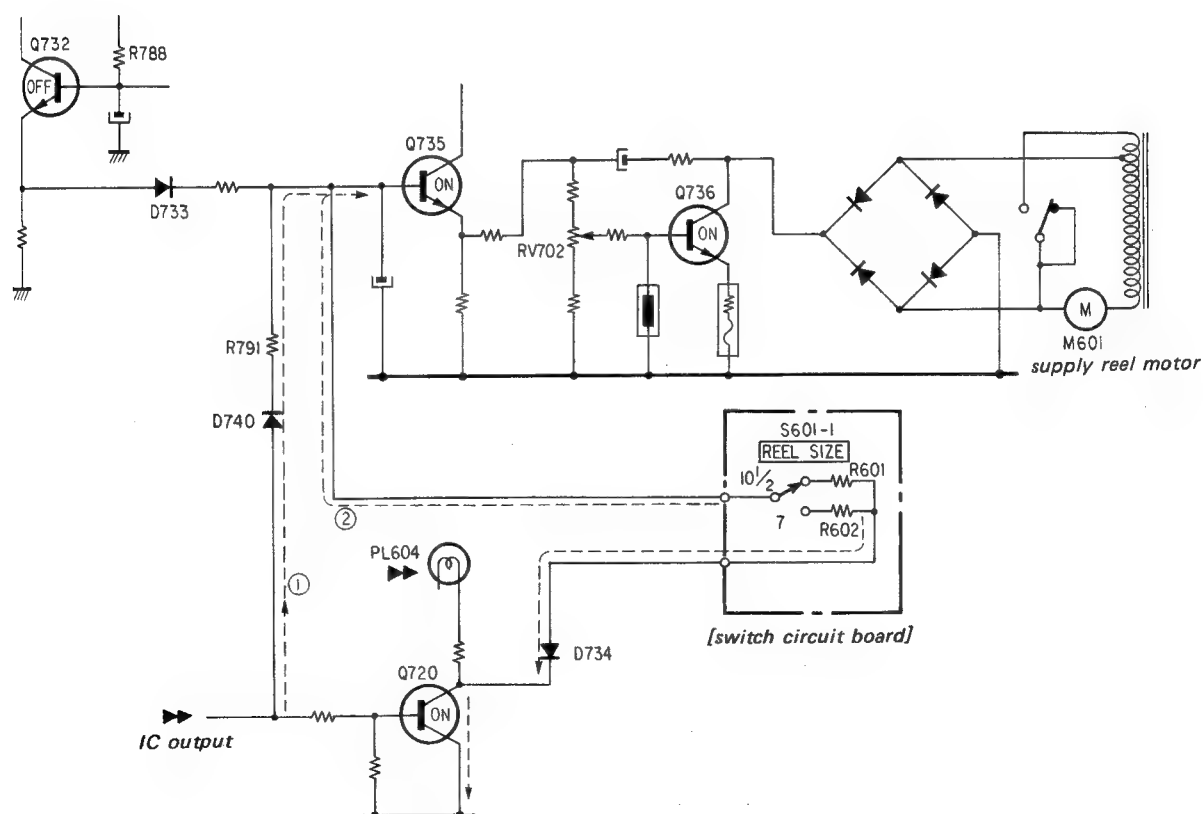

Fig. 13
11. Back Tension Set-up in the Fast Forward Mode (Refer to Fig. 13)